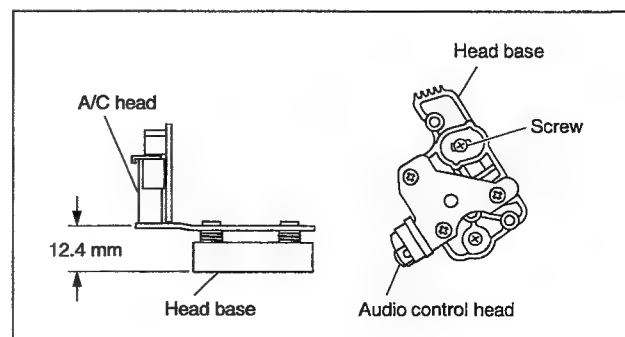

Fig. 2-2-14
- (1) To make the post-installation adjustment easier, set the temporary level as indicated in Fig.2-2-14. Also make sure that the screw center is brought into alignment with the center position of the slot.